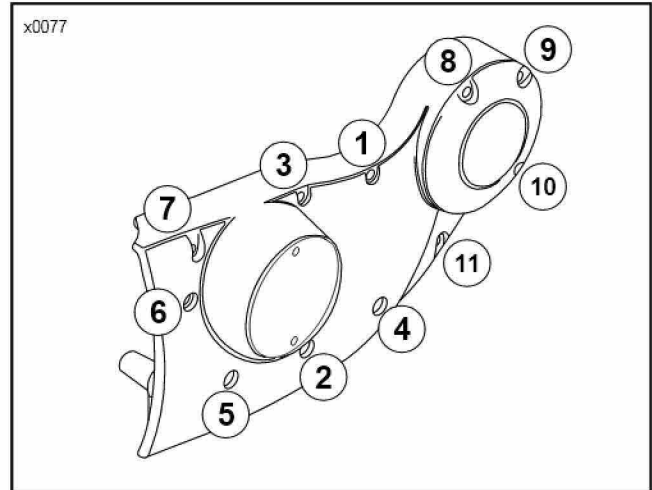

Figure 1. Gearcase
1. See Figure 1. **ONE AT A TIME**, replace original sockethead capscrews in locations 1,2,3,4,7,9, and 10 on gearcase with zinc plated buttonhead screws from kit as follows: